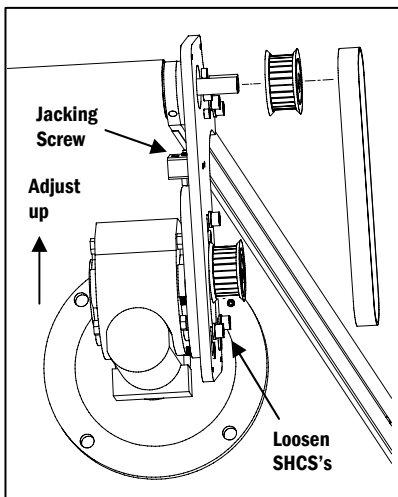
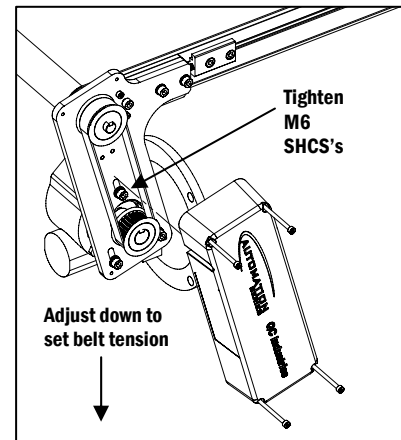

Figure 4
Figure 5
- c. Thread the Tracking Screw up to allow the gearbox and subplate to move toward the conveyor (**Figure 4**).
⑤ Prepare for operation
- c. Retighten the three M6 Socket head Cap Screws with an Allen Wrench to hold the gearbox and subplate in position (**Figure 5**).